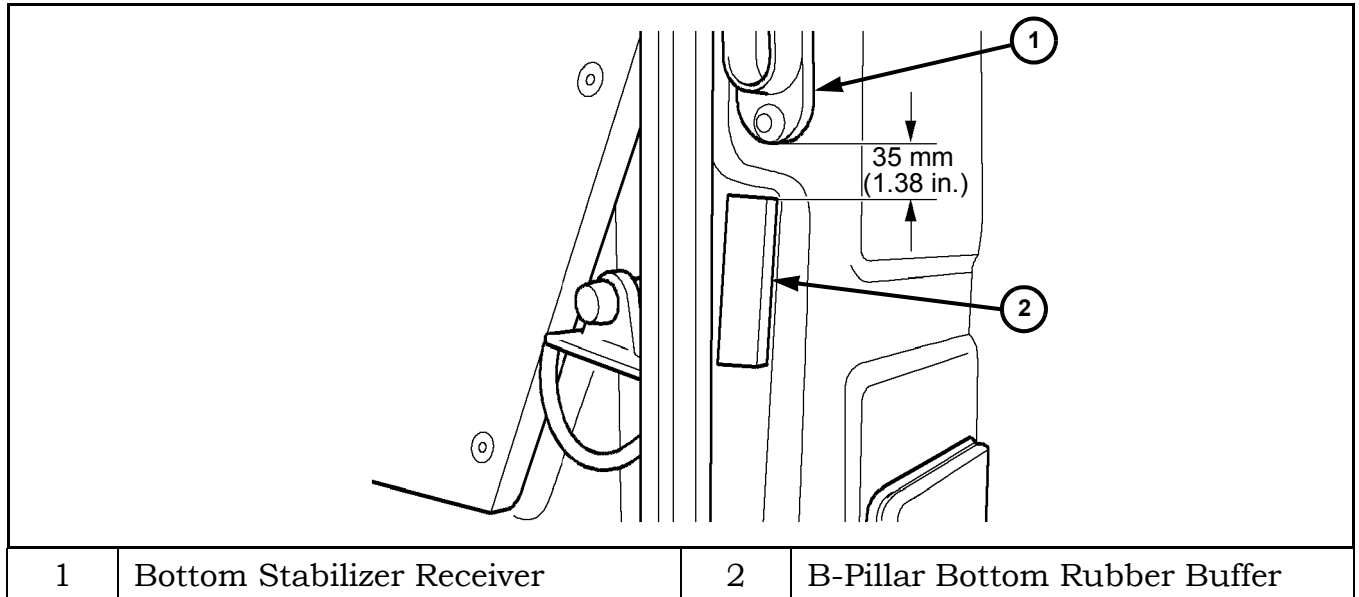

Figure 16 B-Pillar Bottom Rubber Buffer
27. Glue bottom rubber buffer to B-pillar approximately 35 mm (1.38 in.) below bottom stabilizer receiver (Figure 16).